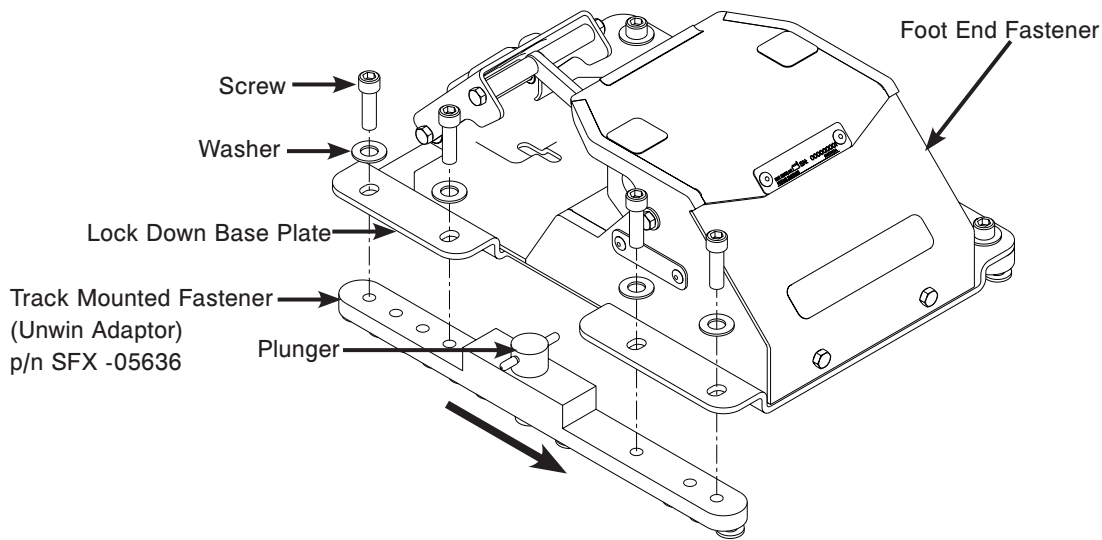

Figure 6: Assemble the Foot End Fastener
1. Position the eight washers between the eight screws (four on each side) and the foot end fastener lock down base plate as shown in Figure 6.
**Note:** Position the track mounted fastener (Unwin adaptor) under the lock down base plate with the black arrow on the Unwin adaptor facing toward the head end of the ambulance as shown in Figure 6.
2. Loosely tighten the screws to attach the track mounted fastener (Unwin adaptor) to the foot end fastener lock down base plate as shown in Figure 6.